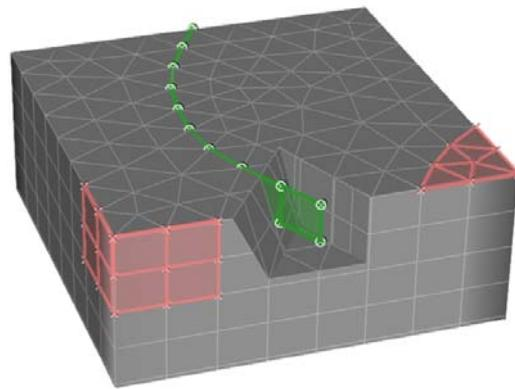

Figure 11.3 Flux and transfer boundary conditions in 3D model.
**Fluid-transfer BCs** can be used to describe rivers, lakes, and known hydraulic heads in a distance from the model boundary (sometimes called 'general head' boundaries). The condition is used to apply transfer properties between a reference value for the primary variable (hydraulic head, concentration, or temperature) and groundwater. Thus the value of the boundary condition is a reference hydraulic head (e.g., river water level), reference concentration, or reference temperature. The hydraulic conductance (e.g., properties of a clogging layer), mass-transport conductance or thermal conductance are defined as material properties on elements adjacent to the boundary condition. Similar to the **Neumann-type BC** the transfer boundary condition must be specified along a line (2D) or for an entire element face (3D—Figure 11.3).